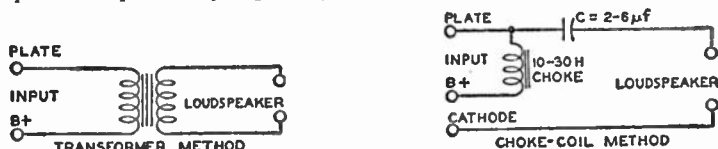

Fig. 78
Output-coupling devices are of two types, (1) choke-capacitor and (2) transformer. The choke-capacitor type includes an iron-core choke having an inductance of not less than 10 henries which is placed in series with the plate and B-supply. The choke offers a very low resistance to the dc plate current component of the signal voltage but opposes the flow of the fluctuating component. A bypass capacitor of 2 to 6 microfarads supplies a path to the speaker winding for the signal voltage. The choke-coil output-coupling device, however, is now only of historical interest. The transformer type is constructed with two separate windings, a primary and a secondary wound on an iron core. This construction permits designing each winding to meet the requirements of its position in the circuit. Typical arrangements of each type of coupling device are shown in Fig. 78. Examples of transformers for push-pull stages are shown in several of the circuits given in the CIRCUIT SECTION.